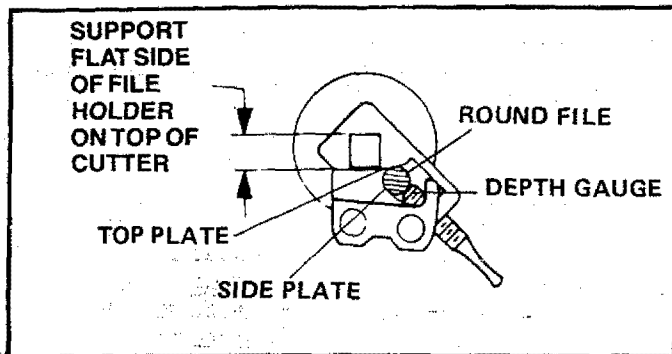

Figure 38
- a.) Support the square rod on the file holder (with 5/32" round file) on cutter top plate. Figure 38.